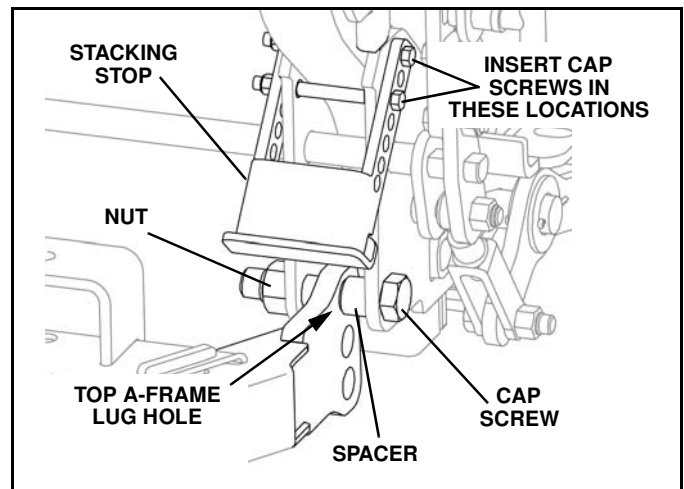

Figure 1-11
c. With a dimension of 10" to 11", the top lug holes are used to connect the A-Frame to the Lower Light Lift Bar (LLL) frame. Insert the cap screw (from the outside) through the LLLB frame, spacer, A-Frame lug top hole and LLLB frame. Secure with nut. Position the Stacking Stop as shown and secure with two cap screws and nuts as shown. Repeat this step for the opposite side. (See Figure 1-11).